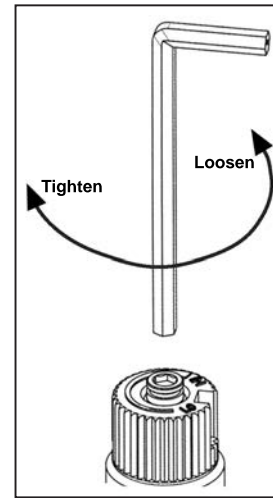

Figure 21: Removing valve screw.
- c) Insert a $5/32$ " or 4 mm Allen wrench into the hexagonal key-way of the screw (see Figure 21), rotate it counter-clockwise until it is free and extract it.
- f) Using the Allen wrench as shown in Figure 21, rotate the screw clockwise until a torque of 9 inch lbs. **WARNING!** Do not over tighten the screw. It is recommended that you grip the wrench by the short side.